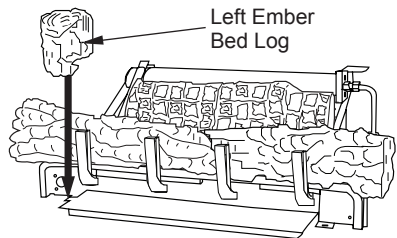

Figure 26 - Installing Left Ember Bed Log
3. Place left ember bed log as shown in Figure 26. The log has groove on one side that sets on the ember bed pan. The back side of this log needs to rest against the front of the base assembly. Make sure the flame from the ember pan does not touch the ember bed log.